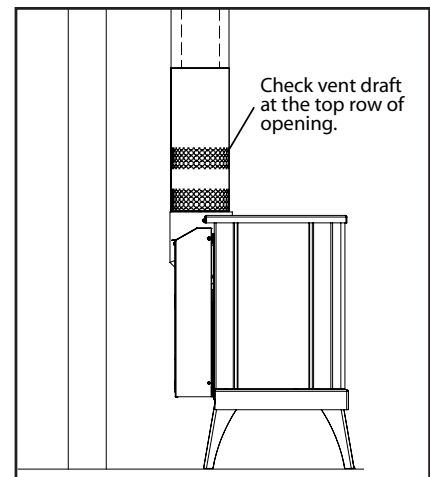

Figure 47: Draft test place.
4. After a minimum of 10 minutes operation, test the chimney draft with a smoke match at the top row of the pattern to confirm that there is adequate draft or 'pull' at the openings around the body of the Drafhoad Adaptor, as shown in Figure 47.